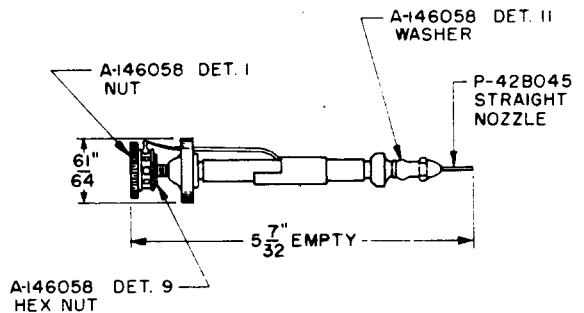

Fig. 2—401A Oil Gun
2.02 **401A Oil Gun:** The 401A oil gun (Fig. 2) is designed to discharge oil in definite limited quantities. The P-42B045 straight nozzle is supplied with the oil gun. A P-249511 curved nozzle is available separate and must be specified in the order. The 401A oil gun is intended for general use and is furnished with an A-146059 wooden case.